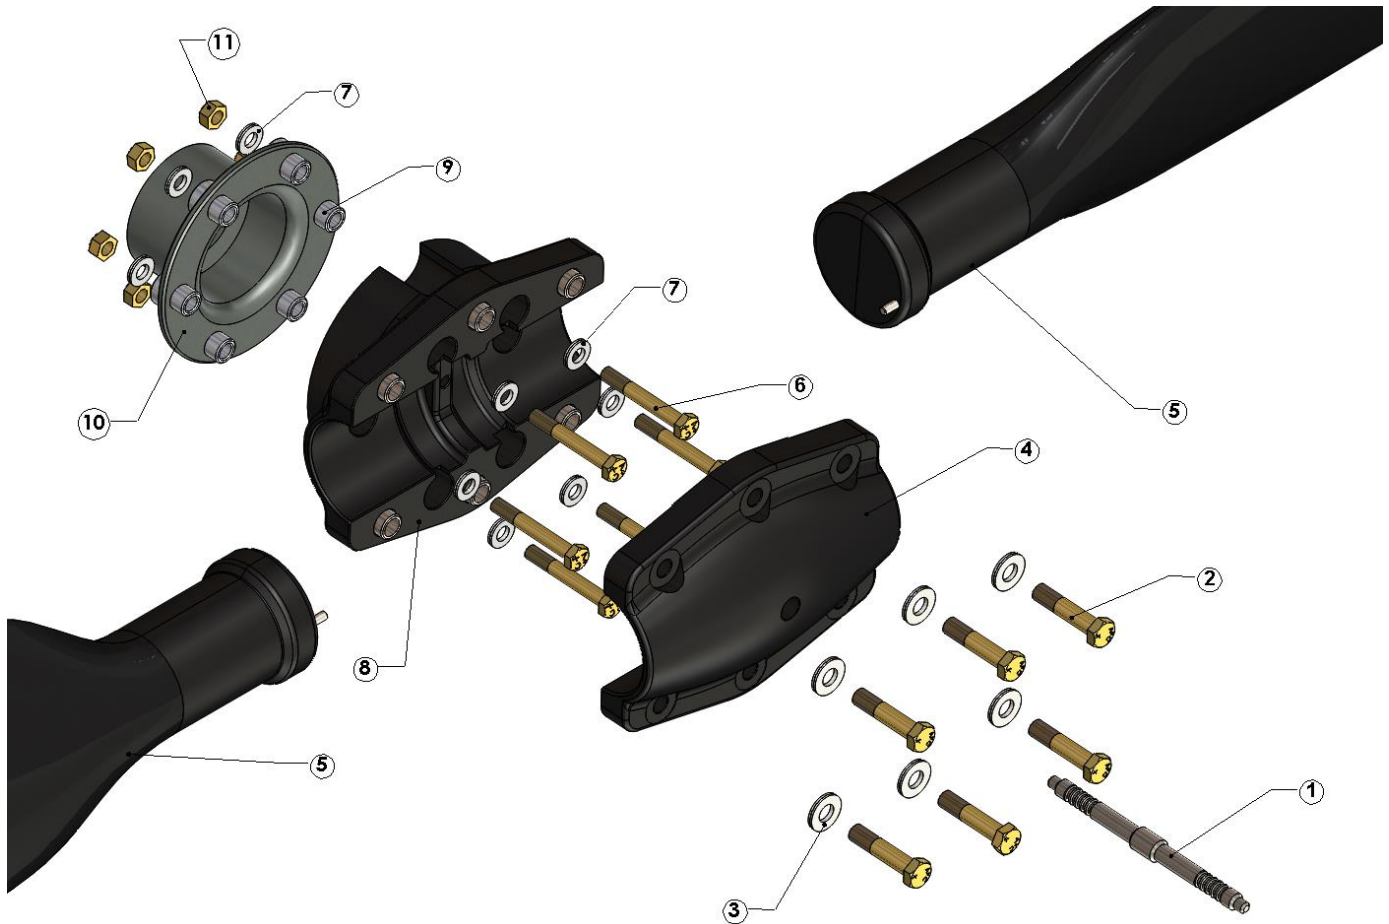
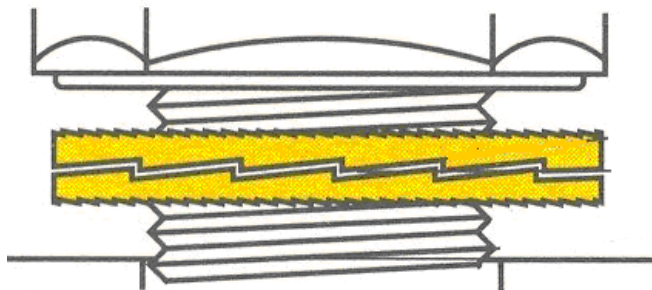

FIGURE 1. PROPELLER ASSEMBLY
FIGURE 4. NORD-LOCK LOCK WASHER
Figure 1 for a view of the two piece hub, blade, and pitch setting gage.
2. Place spacer and spacer bushings (if required), rear spinner bulkhead (if used) and the hub mount, as shown in **Figure 1** on the propeller mounting flange. The hub must sit flush on the mounting flange.
3. Refer to **Figure 1** for a view of the two piece hub, blade, and pitch setting gage. Using the Nord-Lock washers, mount bolts, and lock nuts, secure the hub mount, rear spinner bulkhead (if used), and the spacer (if required) to the engine flange. See **Figure 4** for proper Nord-lock washer assembly. Using a calibrated torque wrench, torque the 6 mounting bolts evenly using an alternating pattern. Tighten the bolts in several passes up to full torque, such as 100, 200, and 420 in-lbs torque. See **Table 1** or hub decal for other units of bolt torque.
Each Nord-lock washer works in pairs with the "ramped" sides facing each other. See Figure 4.
Check bolt torque at least once a year or if vibration occurs. Hubs use bolts with Nord-Lock washers. No other washers may be used in combination with Nord lock washers. Each lock washer works in pairs with the "ramped" sides facing each other. See Figure 4.